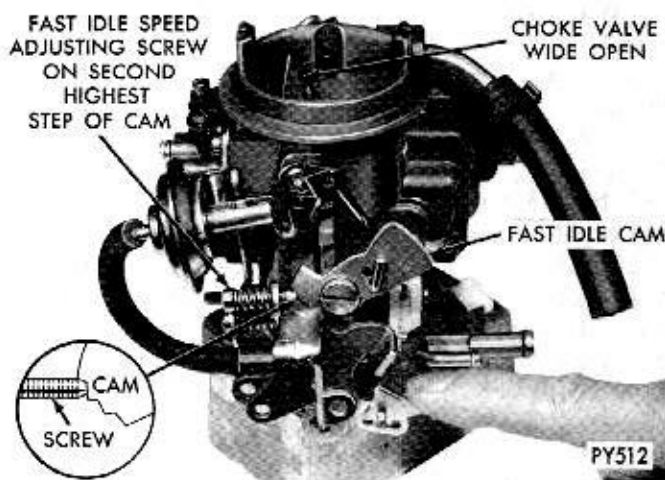

Fig. 13—Fast Idle Speed Adjustment (on Vehicle)
(1) With engine off and transmission in PARK or NEUTRAL position, open throttle slightly.
(2) Close choke valve until fast idle screw can be positioned on second highest-speed step of fast idle cam (Fig. 13).
(3) Start engine and determine stabilized speed. Turn fast idle speed screw in or out to secure specified speed. (See Specifications.)
(4) Stopping engine between adjustments is not nec-